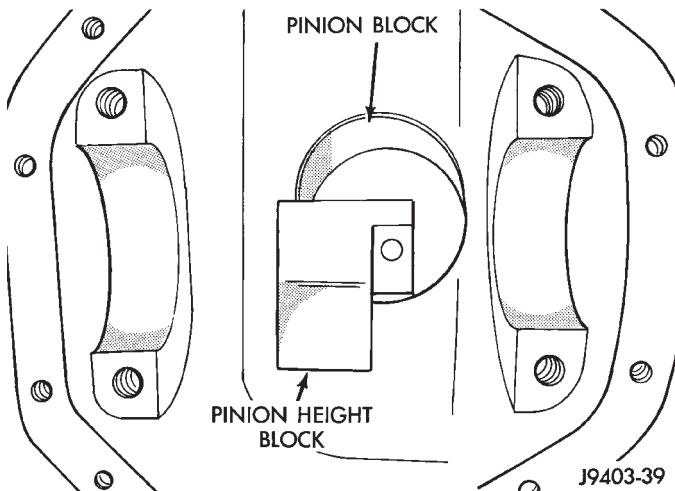

Fig. 26 Pinion Height Block
(1) Assemble Pinion Gauge Set, Pinion Block and pinion bearings. Install assembly into differential pinion gear bore and hand tighten cone (Fig. 26).